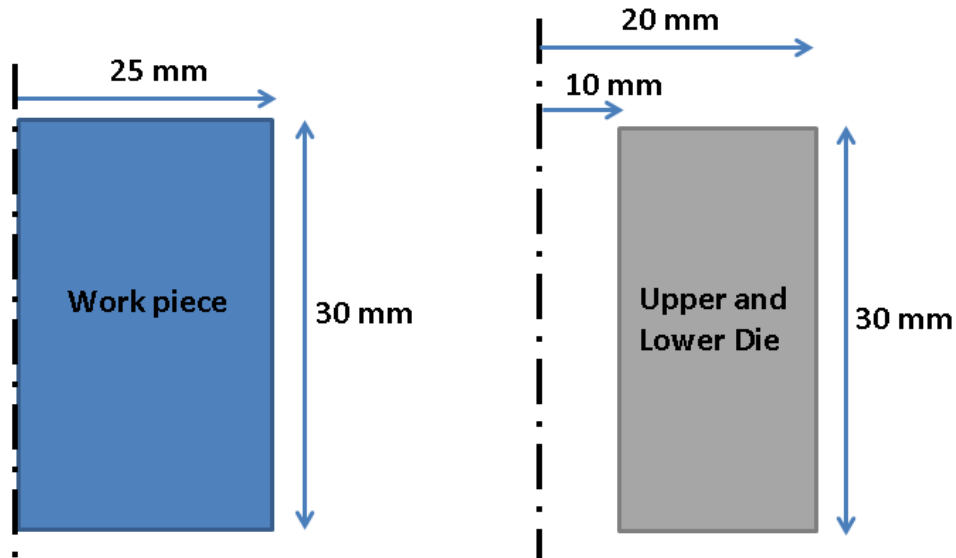

Figure 1: Work Piece and Die Geometry for 3D Simulation
1. Create *cylindrical* work piece geometry with a diameter of 50 mm, a height of 30 mm, and an angle of 45 deg (Figure 1). The angle specifies a slice of the work piece that we will use for simulation; a smaller angle results in a thinner slice and a faster simulation.
2. Create *pipe* upper and lower die geometry with an inner diameter of 20 mm, an outer diameter of 40 mm, a height of 30 mm, and an angle of 45 deg (Figure 1)